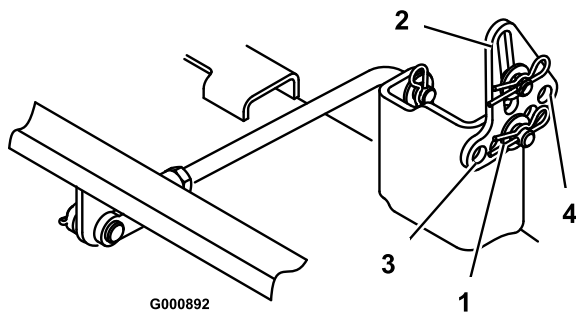

Figure 42
6. Remove the hairpin cotter and washer from the leveling bracket (Figure 42). To level the blade(s), reposition the leveling bracket(s) in a different hole and install the washer and hairpin cotter. (Figure 42). A front hole lowers the blade height and a rear hole raises its height. Adjust both sides as required.